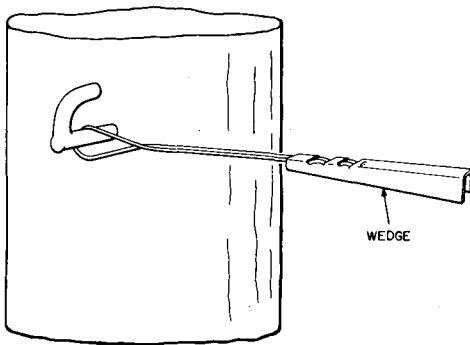

Fig. 1 — Wire Loop of Wedge Hook
2.01 Place the wire loop of the wedge on the drive hook as indicated in Fig. 1. Where the attachment is a knob, spread the wire loop sufficiently to permit its slipping over the knob and into the groove. Then pull on the wire loop and at the same time pinch the two sides together until the loop conforms to the diameter of the groove.
- 3.01** Place the wire loop on the hook as shown in Fig. 1.